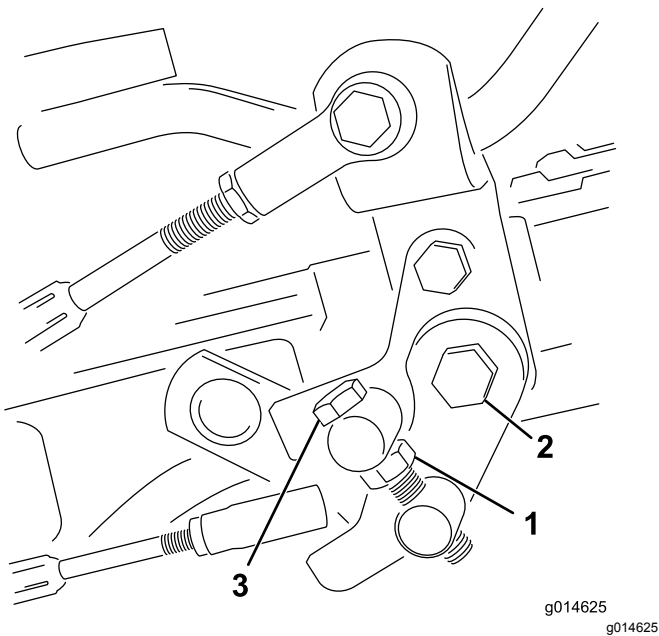

Figure 39
1. Loosen the jam nut on the trunion bolt (Figure 39).
4. Tighten the jam nut on the trunnion bolt and the nut on the pedal pivot to lock the adjustment (Figure 39). Check the adjustment and adjust as required.